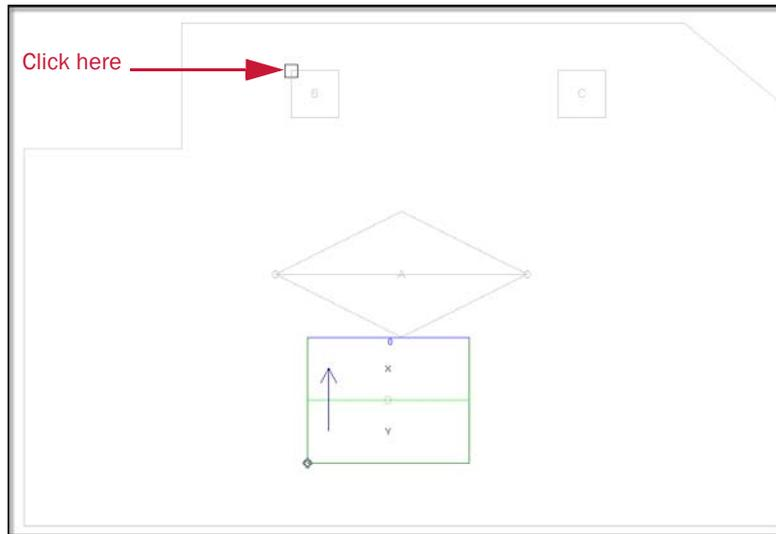

Figure 3-13 Select the first point for your long cricket
4. Place your cursor on the top left corner of the first void and click, as in Figure 3-13.